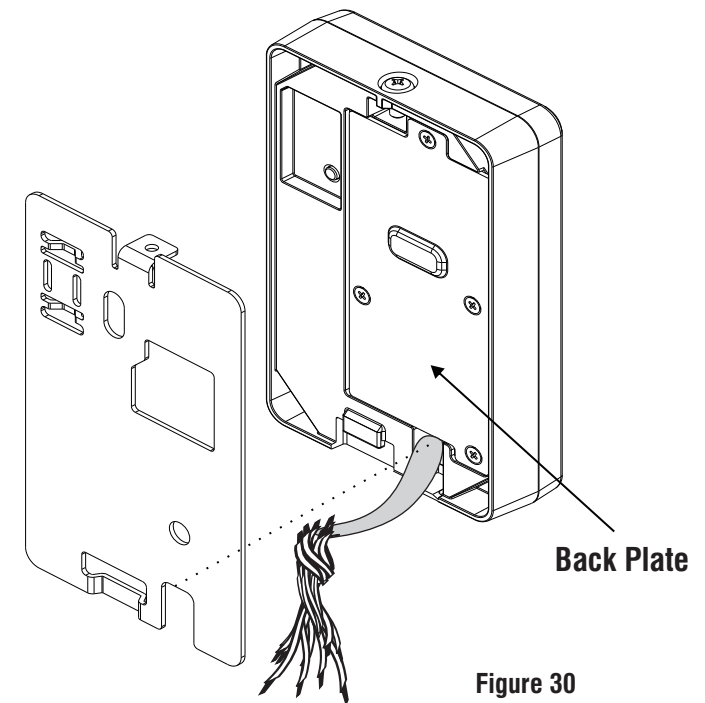

Figure 30
3. Pull out the Cables from the Back Plate hole and lead the cables outside from the bottom opening of COSEC ATOM, as illustrated in **Figure 30**.